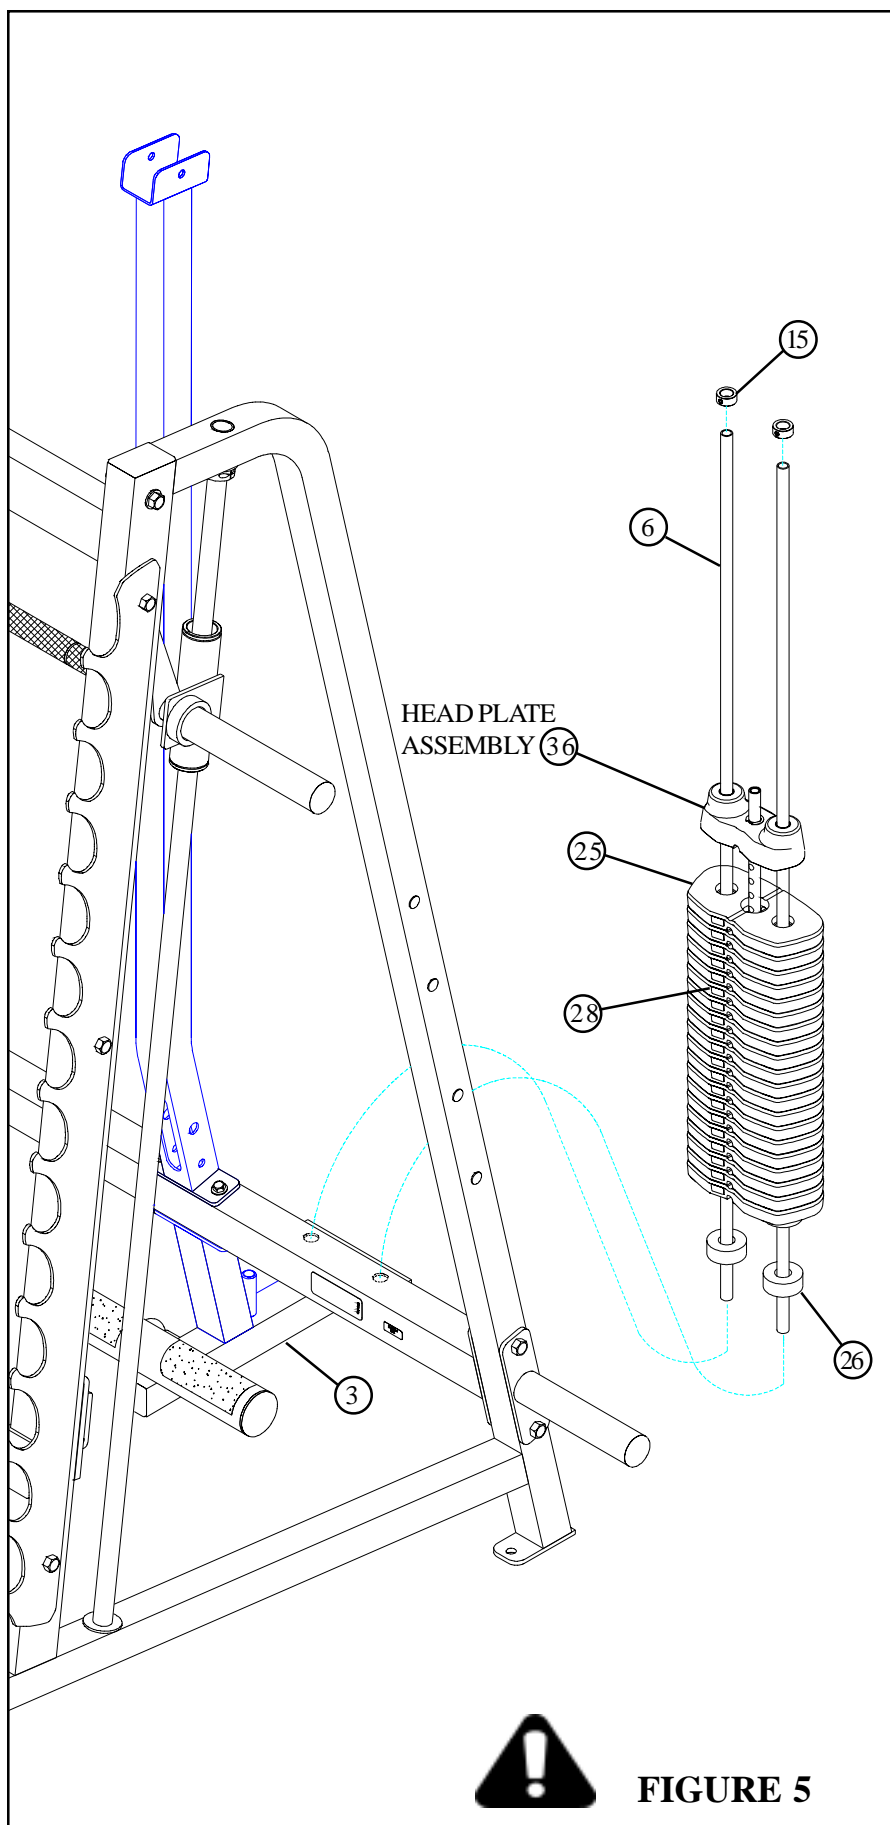

FIGURE 5
- Insert two GUIDE RODS (6) into the STACK BASE (3) as shown in FIGURE 5. Lubricate the GUIDE RODS (6) with a silicon or teflon spray that is available at most hardware stores.
- Slide two WEIGHT STACK CUSHIONS (26) down over the GUIDE RODS (6). See FIGURE 5.
- Using **EXTREME CARE** slide twenty WEIGHT PLATES (25) down over the GUIDE RODS (6) with the key-hole facing as shown in FIGURE 5.
- Carefully Slide the HEAD PLATE ASSEMBLY (36) down over the GUIDE RODS (6) onto the weight stack as shown in FIGURE 5.
- Slide two 13/16" SHAFT COLLARS (15) over the GUIDE RODS (6) as shown in FIGURE 5.
- Apply one set of WEIGHT STACK LABELS - 1-26 (28) to each WEIGHT PLATE (25) as shown in FIGURE 5.